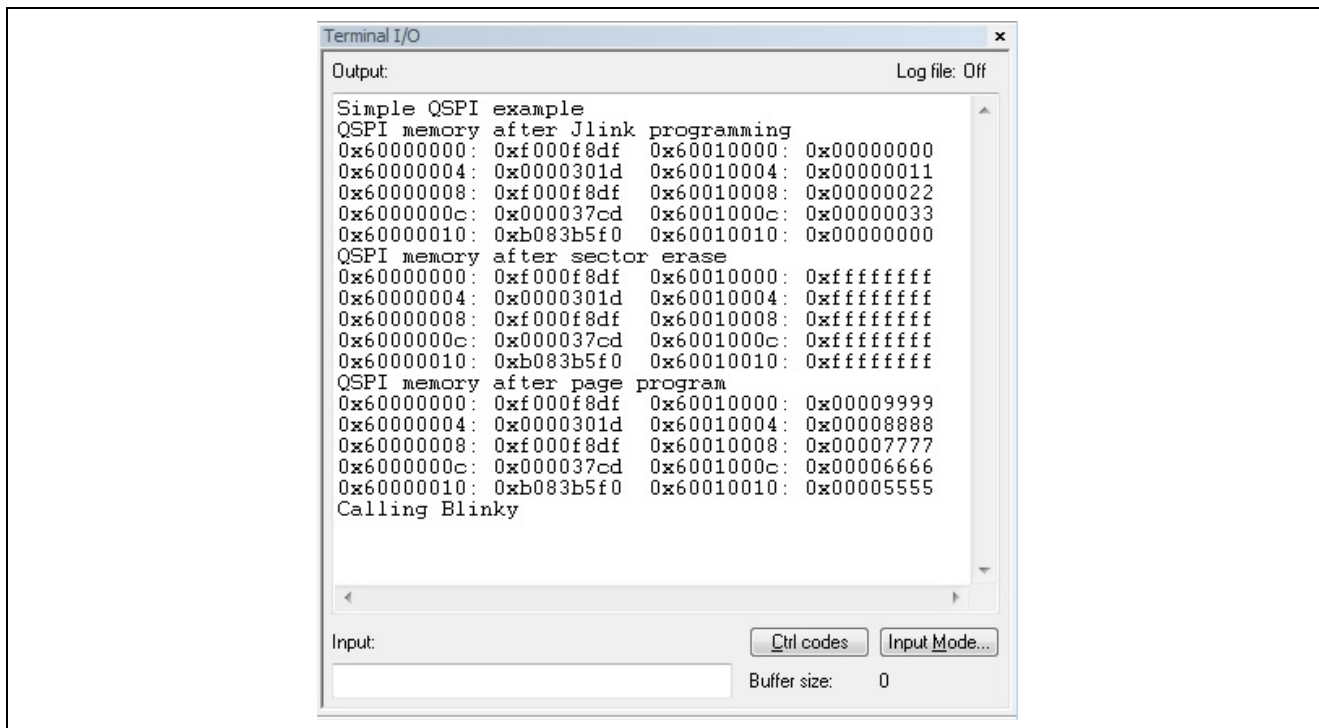

Figure 22. Display in the Terminal I/O Window
- While the program executes up to the breakpoint, the data in the external flash memory are displayed in the **Terminal I/O** window. A break then occurs at the breakpoint that was set in step 4. The data is displayed in the **Terminal I/O** window as shown in Figure 22 by using the semi-hosting function.